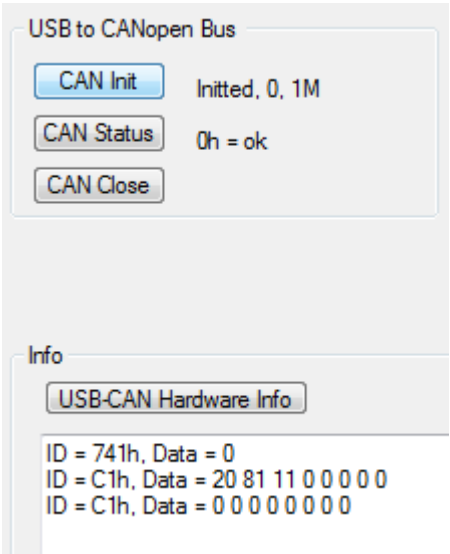

Figure 7.7: CANopen communication initialized
- ◁ The USB to CANopen Bus container will display the connection status as shown in Figure 7.7. Additionally the LED on the MD-CC501-000 should be blinking rapidly.